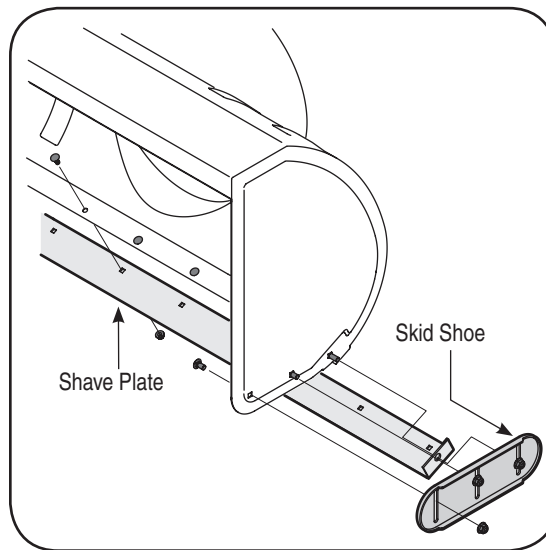

Figure 6-3
1. Remove the six carriage bolts and lock nuts that secure the two skid shoes to the sides of the auger housing. Refer to Figure 6-3.
1. Remove the nuts and carriage bolts that secure the shave plate to the bottom of the housing, Figure 6-3.